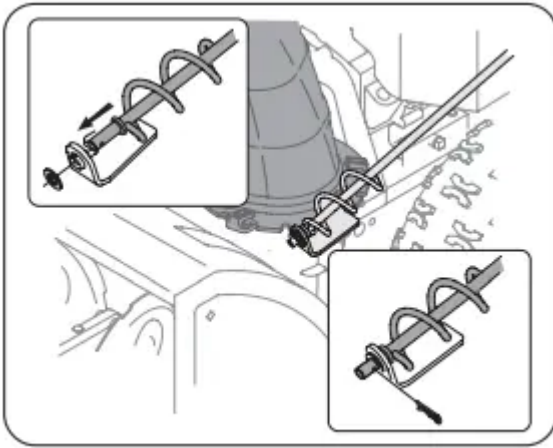

Figure 11
- Remove plastic cap (if present), flat washer and hairpin clip from end of chute directional control assembly. See Figure 11.